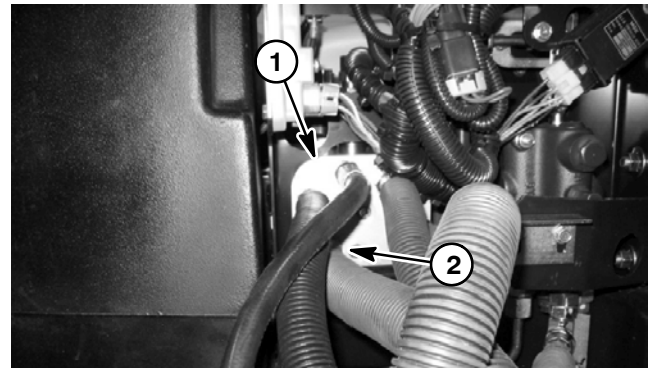

Figure 22
4. Disconnect hose connection from hydraulic fitting on manifold port (M1) (Figure 22).